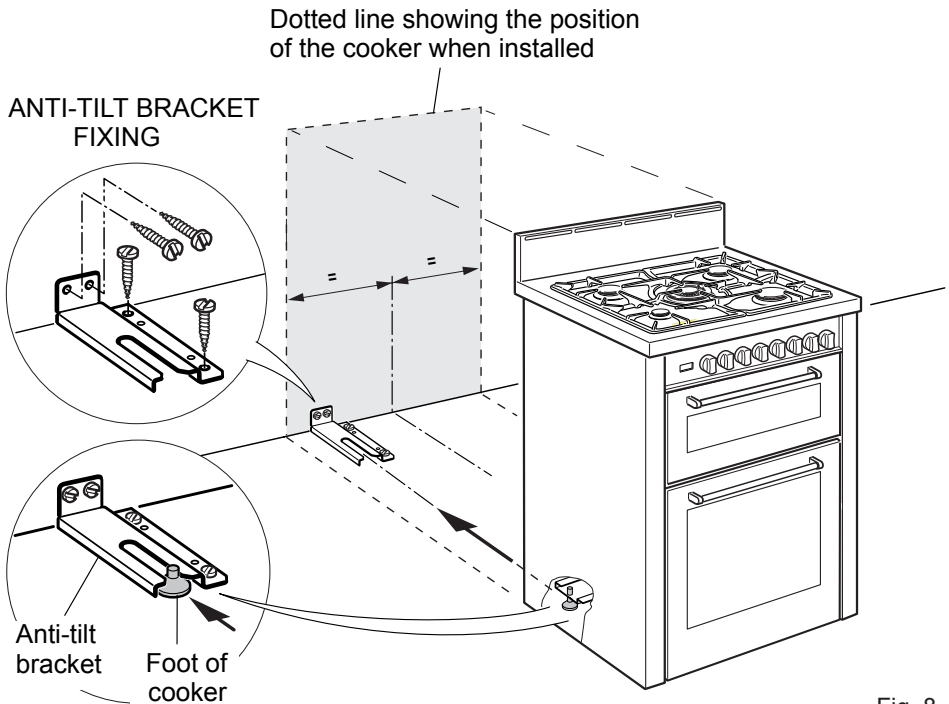

Fig. 8
1. After you have located where the cooker is to be positioned, mark on the wall and on the floor the place where the four screws of the anti-tilt bracket have to be fitted. Please follow the indications given in fig. 8.
2. Drill four 8mm diameter holes for the fixing screws (two in the wall and two in the floor-see fig. 8) and insert the plastic plugs supplied.
3. Attach the anti-tilt bracket to the floor and rear wall using the four screws supplied, as shown in fig. 8.
4. After attaching the anti-tilt bracket securely, slide the cooker into place. Ensure that the rear left foot slides under the bracket, as shown in fig. 8.